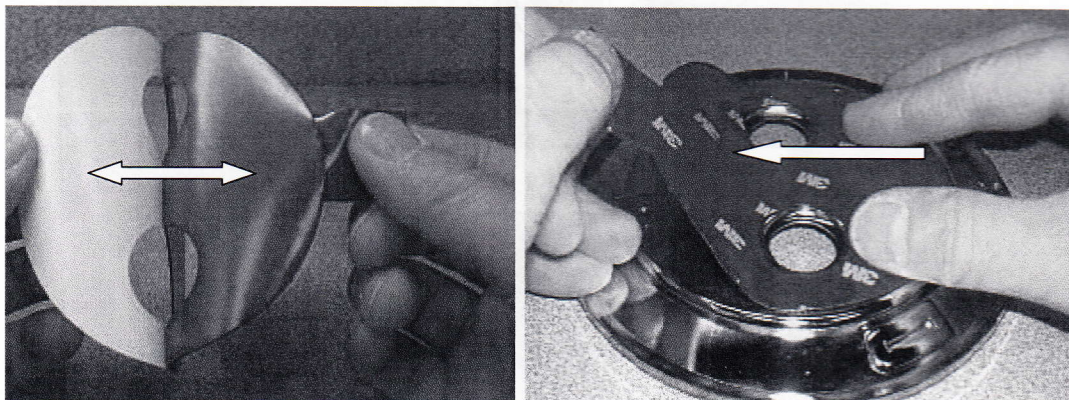

Figure 5
6. Peel the white backing paper from the Die Cut Tape. Avoid finger contact to the adhesive. Apply the Die Cut Tape to the back side of the chrome ring, aligning the holes as shown in Figure 5. Avoid trapping air bubbles under the tape.